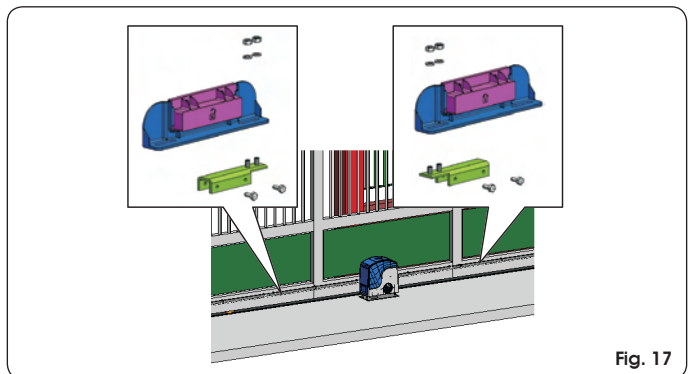

Fig. 17
The operator has a magnetic limit switch, which commands gate motion to stop when the magnet, which is secured to the upper part of the rack, activates the sensor. The magnets supplied with the operator are specifically polarised and activate only one of the sensor's contacts: the closing or opening contact. The magnet activating the open gate contact bears an open padlock symbol, and, vice versa, the magnet activating the closed gate contact bears the closed padlock symbol (see Fig. 17). Procedure for correct positioning of the two travel-limit magnets:
- ① Assemble the two magnets as shown in Fig. 17.
- ② Set the operator to manual mode operation - as per paragraph 8 - and power up the system.